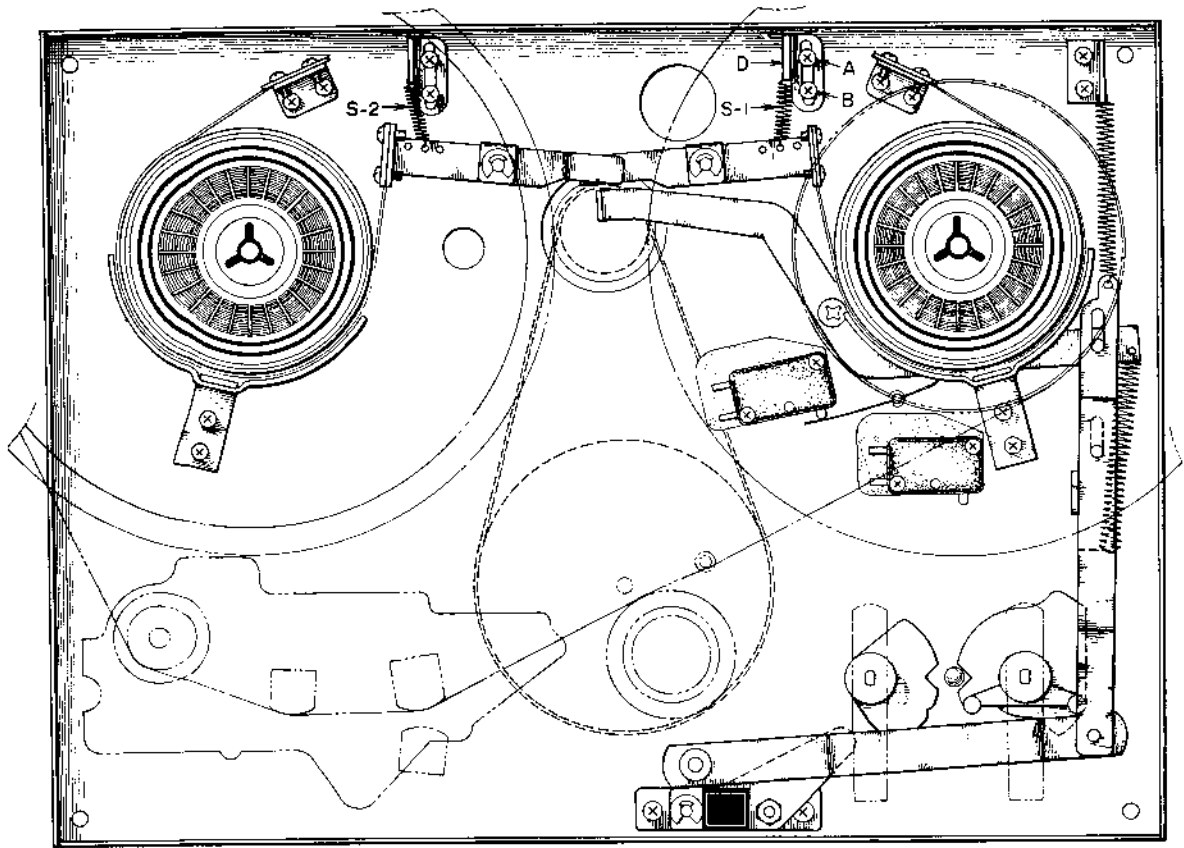

Fig. 6-3
To regulate tension, change the position of the suspended springs ( $S_1$  and  $S_2$  in Fig. 6-3) or loosen screws (A) (B) and regulate position of the spring suspension metal fitting (D).